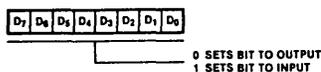

Figure 8. I/O Register Control Word
**I/O Register Control.** When Mode 3 is selected, the mode control word must be followed by another control word that sets the I/O control register, which in turn defines which port lines are inputs and which are outputs (Figure 8).